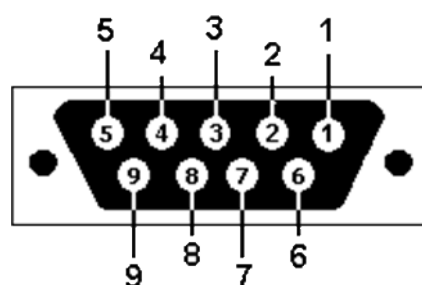

Figure 4-20. MRU External Alarms Connector Pin Out
1. Connect the external alarms cable (ordered separately) to the chassis’s DB9 “External Alarms” connector. Refer to Table 4-5 and to Figure 4-20 for pin out information.